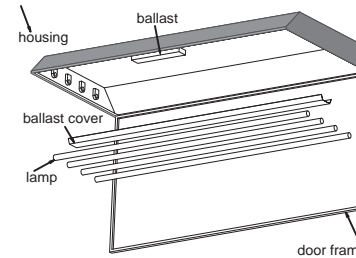

Figure 1
Step1: Turn off power of existing fixture. (Figure1)